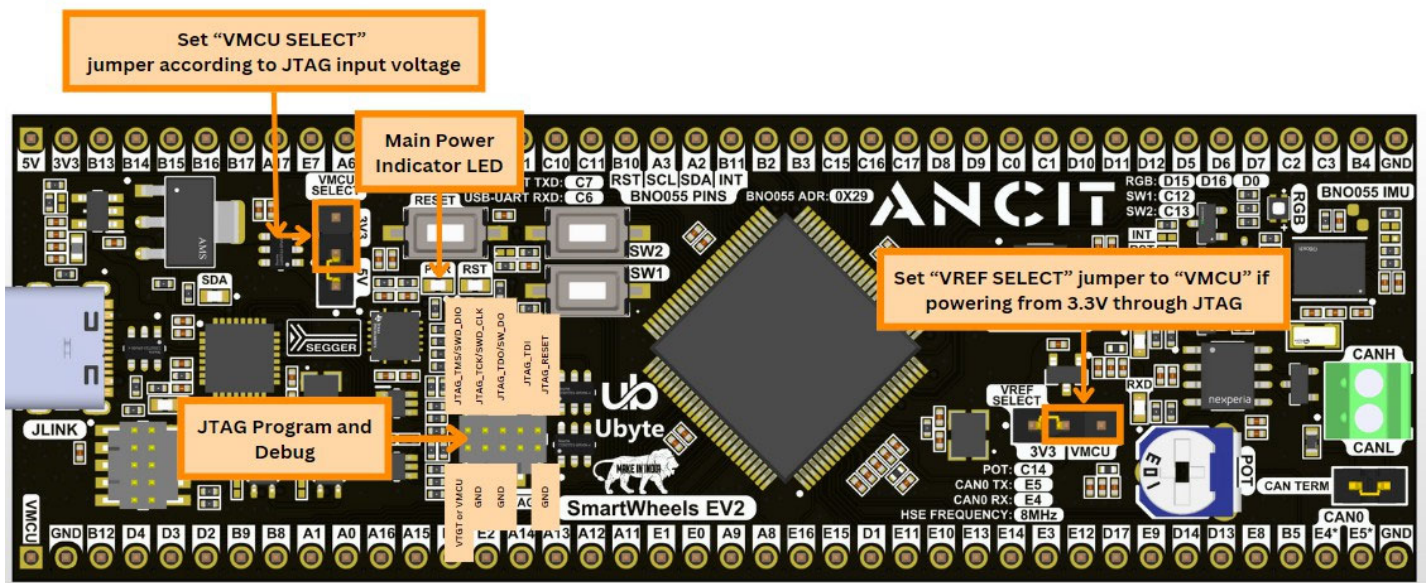

Fig 5 : Powering through JTAG Connector
- The “PWR” LED is mentioned in Fig 5. indicates that power is being received by the SmartWheels EV2.